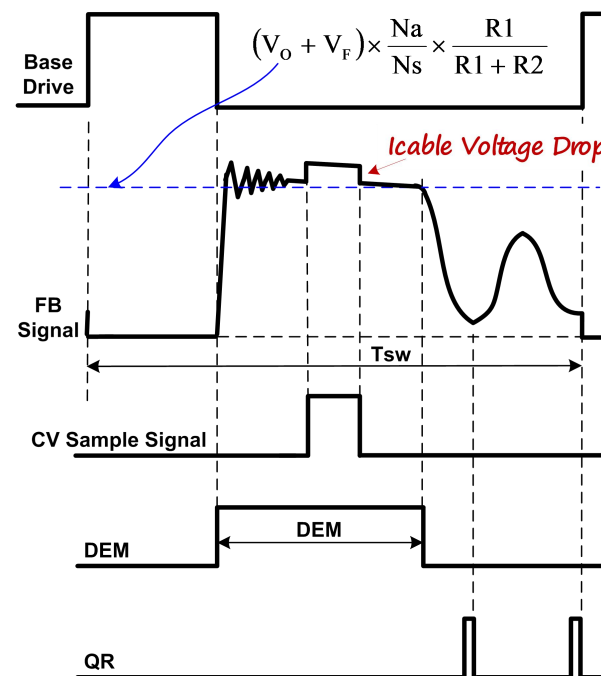

Fig.2
In Primary Side Regulation (PSR) control, the output voltage is sensed on the auxiliary winding during the transfer of transformer energy to the secondary. Fig.2 illustrates the timing waveform of CV sampling signal, demagnetization signal (DEM) and quasi-resonant (QR) trigger signal in DP1801B. When the CV sampling process is over, the internal sample/hold (S&H) circuit captures the error signal and amplifies it through the internal Error Amplifier (EA). The output of EA is sent to the Quasi Resonant PSR CV Modulator (QR-CVM) for CV regulation. A valley is selected to trigger new PWM cycle by the output of the QR-CVM block, which is determined by the load. The internal reference voltage for EA is trimmed to 1.3V with high accuracy.
During the CV sampling process, an internal variable current source is flowing to FB pin for Cable Drop Compensation (CDC). Thus, there is a step at FB pin in the transformer demagnetization process, as shown in Fig.2. Fig.2 also illustrates the equation for